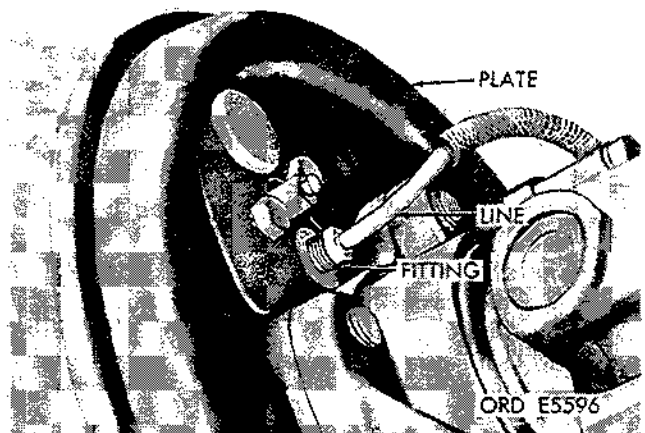

Figure 2-346. Remove fitting from wheel cylinder.
- (7) Remove brake line fitting from wheel cylinder at inner side of brake backing plate (fig. 2-346) and remove brake line from suspension arm.